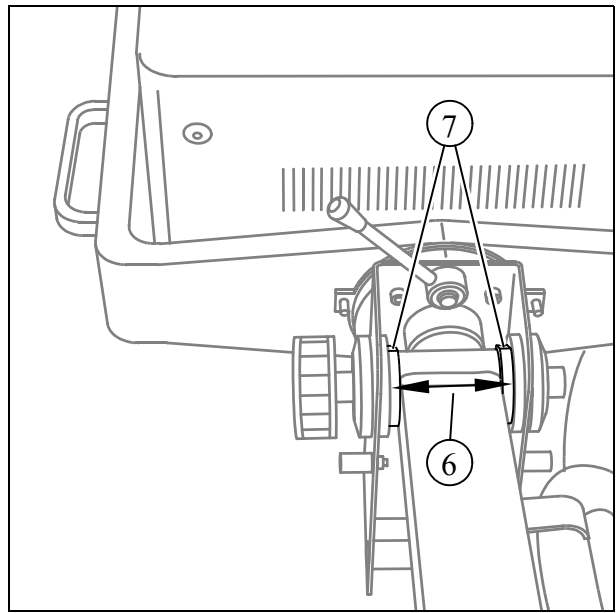

Fig. 6
- Check the edges of the locking disks (6/Fig.6). They must **not** be worn.
- Ensure that there is play (without any friction) on all sides of the locking bar in the stand head (7/Fig.6).